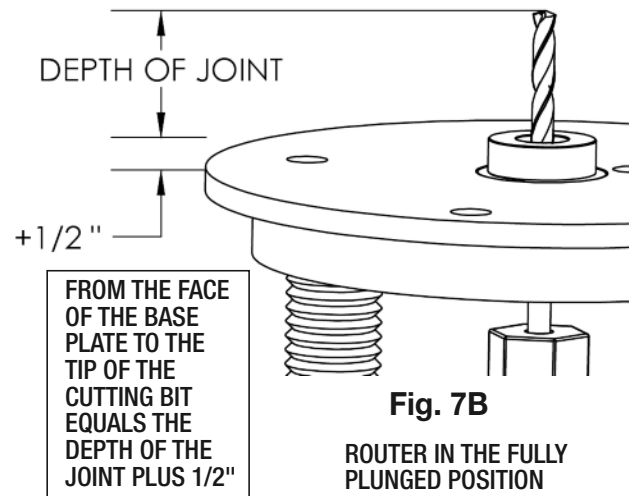

Fig. 7B
- Accordingly, add 1/2" to the desired depth of the mortise and tenon when setting the "plunge" depth of the router (Fig.7b).